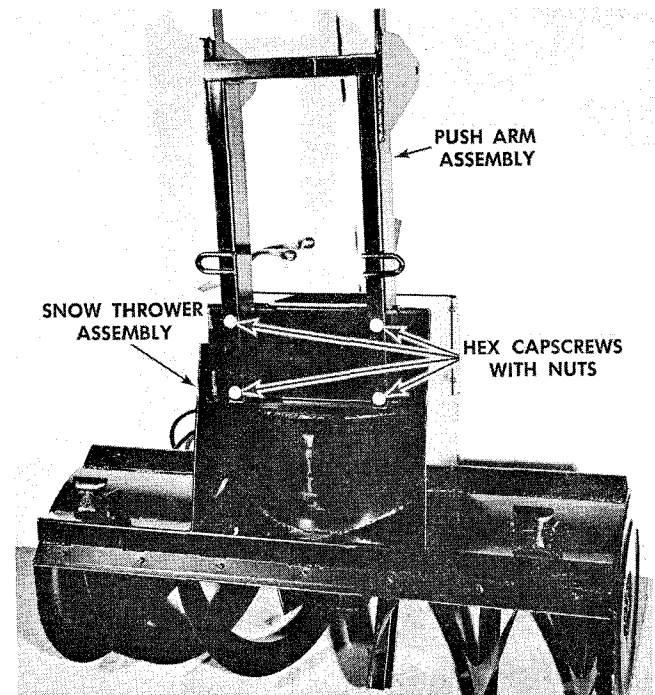

FIGURE 3
1. Attach the push arm assembly to the rear of the Snow Thrower with four hex head capscrews 1/2-13 x 3-3/4 and Flange Whiz lock nuts 1/2-13. See figure 3.